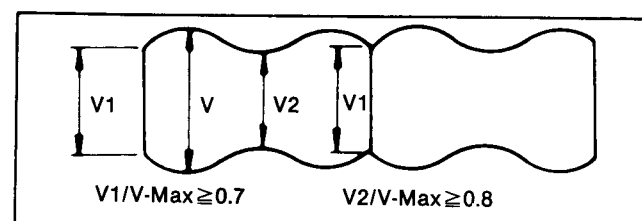

Fig. M24
- Play back the monoscope portion of the Alignment Tape and confirm that RF envelope appears, as in Fig. M24.
- If adjustment is required, slowly move the A/C Head Base back and forth using a screwdriver by turning screw (D) so that the envelope is at a maximum.